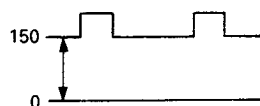

Fig. 14
- (3) Connect the oscilloscope to Q651 and Q653 collector in turn. Connect the ground probe to the pin ② of connector CT.
- (4) Adjust SCREEN control VR651 to VR653 so that the PEDESTAL LEVEL of each collector shall be 150V. (Fig. 14)